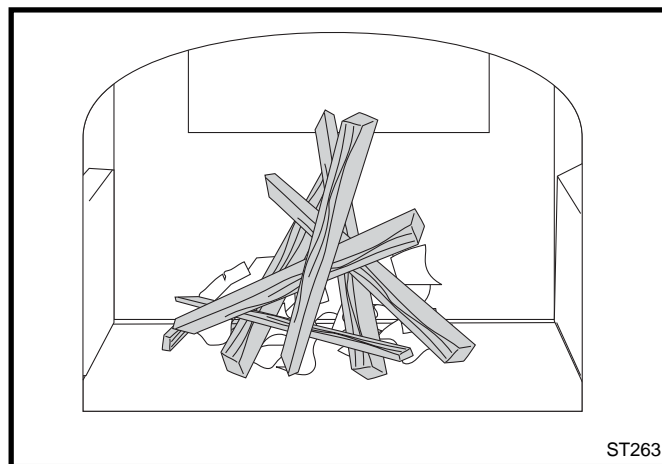

Fig. 27 Start a fire with small, dry kindling.
Step 2. Place several sheets of crumpled newspaper in the stove. Avoid using glossy or colored paper, as these burn poorly. At the front of the firebox, place on the paper six or eight pieces of dry kindling split to a finger-width size, and on the kindling lay two or three larger sticks of split dry wood approximately 1-2" (25-51mm) in diameter. (Fig. 27)